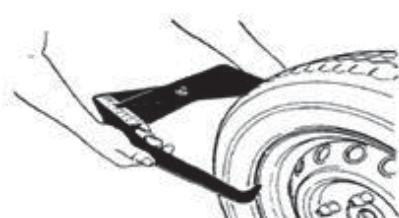

Fig.2
- Use width gauge to read the value of width (Fig. 2), press and and to change, set “b” value.